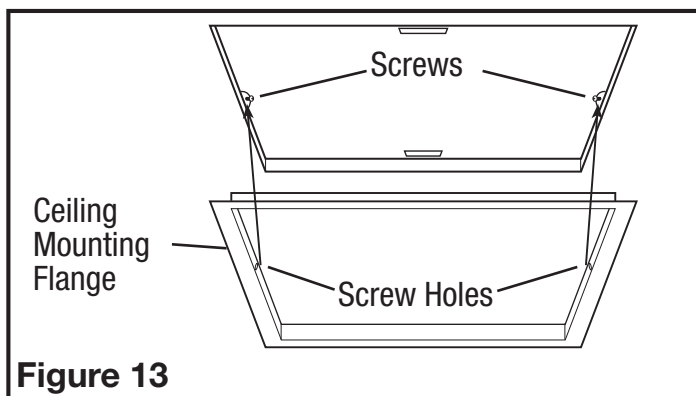

**Figure 11**
- 2a. **STANDARD AND HUMIDITY SENSING MODELS:** Plug the fan's 2 pin and 3 pin quick connect motor cords into the corresponding receptacle located on the wire compartment cover. These cords will only fit one way into the receptacles (Figure 11).